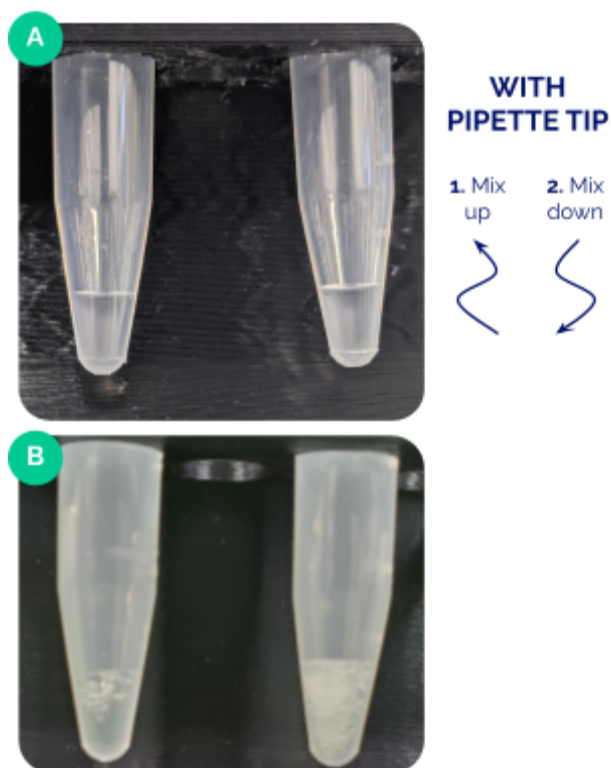

Figure 2. (A) PIP:cell mixture following pipette mixing with no apparent bubbles.
7. Mix the cell:PIP mixture 10 times using a **standard bore**, low-retention P200 tip at 25 μL stroke to ensure even dispersal of sample in PIPs (Figure 2).